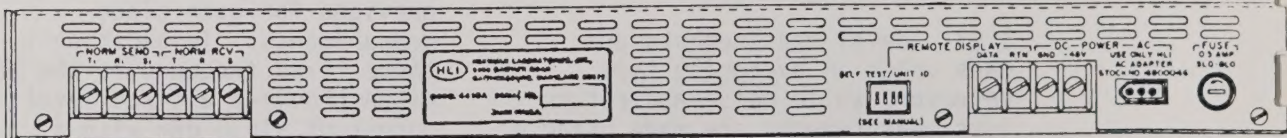

Figure 1. Model 4410A Transmission Test Set Front/Rear Views
1.01 This manual contains information necessary for installation and operation of the HLI Model 4410A Transmission Test Set. This section covers the functional description and specifications. Figure 1 shows the front and rear view of the Model 4410A.